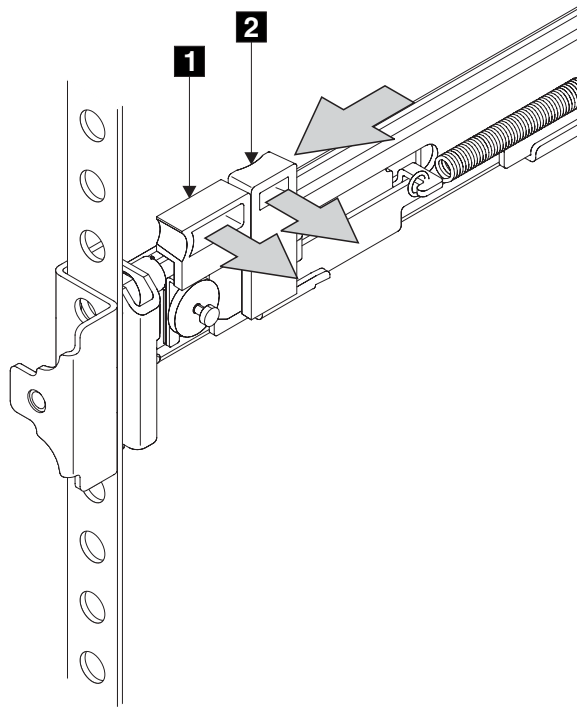

Figure 31. Closing the latch-lock carrier assembly
13. Push the latch lock **2** (Figure 31 on page 33) away from the rail to release the carrier. The latch-lock carrier slides toward the front of the rack, and the locating pins project through the holes that are in the front flange and in the front rail bracket.